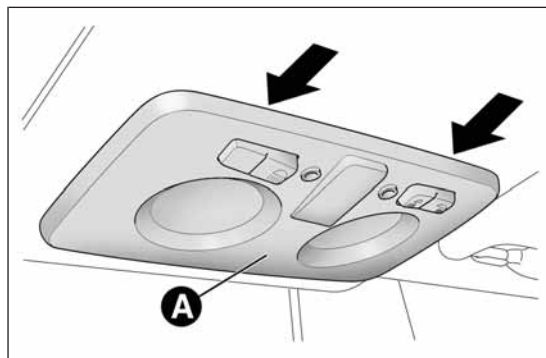
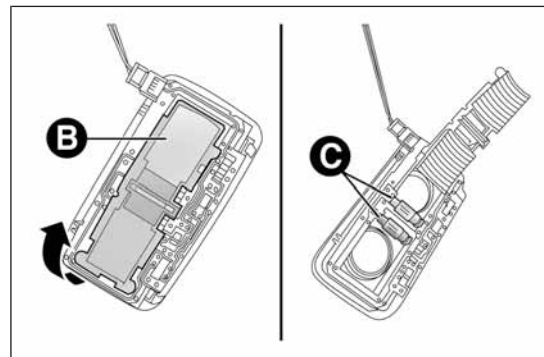

fig. 143
fig. 144
- ☐ remove the roof light A fig. 143 working at the points indicated by the arrows;
- ☐ open the flap B fig. 144 and replace the bulbs C releasing them from the side contacts. Make sure that the new bulbs are correctly secured between the contacts;
- ☐ reclose the flap B fig. 144 and fix the roof light A fig. 143 in its housing making sure that it is locked.